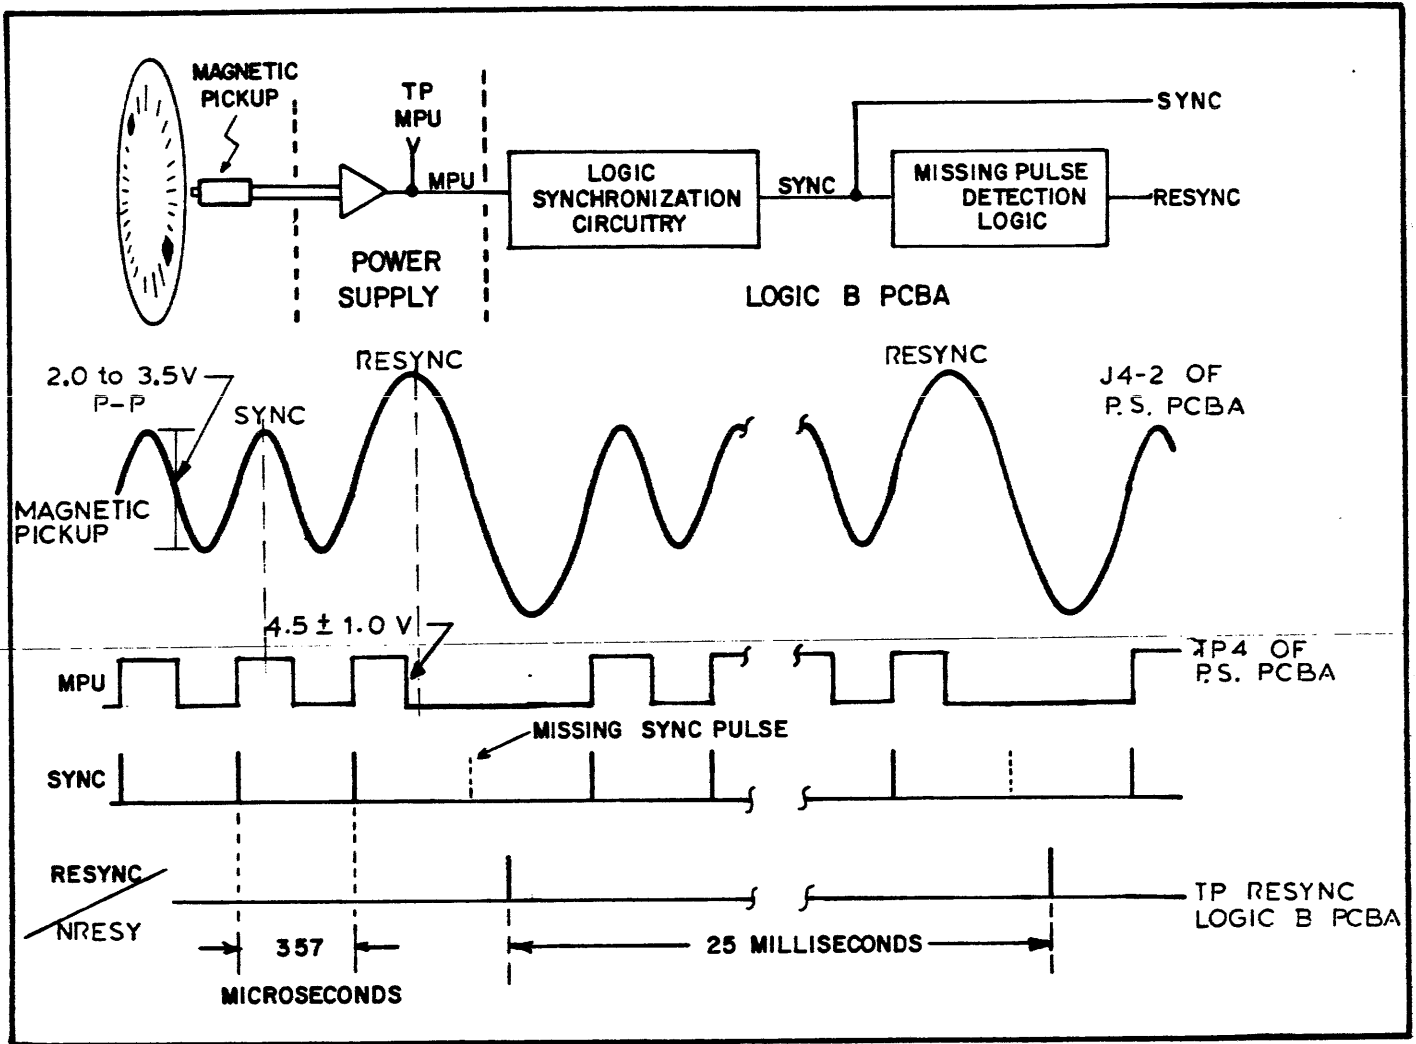

Figure 100 Operation of SYNC and RESYNC
- c. Connect an oscilloscope across Pin 2 of the adjacent terminal strip and ground. Verify that the output of the MPU is between 2.0 volts and 3.5 volts P-P (**Figure 100**).